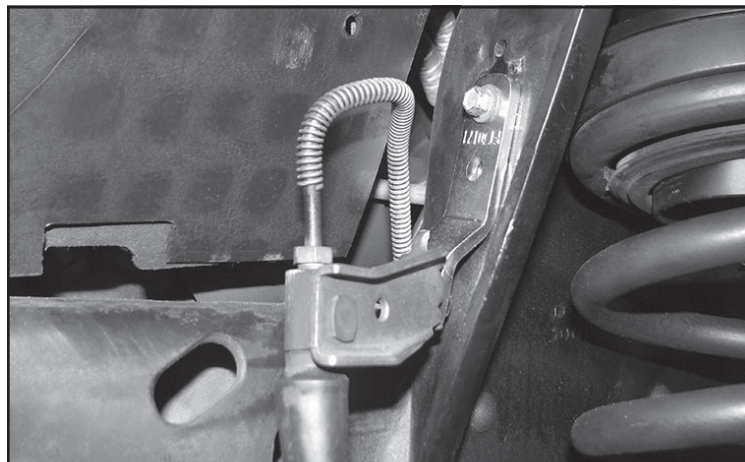

FIGURE 10 - STEP 11
11. Locate the factory brake line mount hole on the front side of the coil bucket, attach FT30171 (brake line bracket) to the hole using the original factory hardware. Attach the factory brake line to the new bracket using the supplied 5/16" hardware. **SEE FIGURE 10**